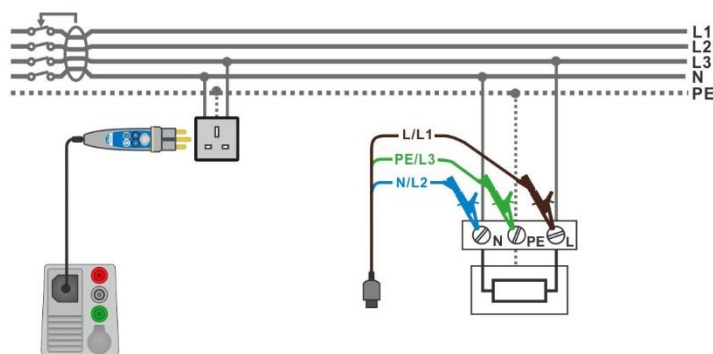

Figure 7.41: Connecting the Plug commander and the 3-wire test lead
- › Connect L, N and PE of 3-wire test lead or Plug commander to the object under test, see **Figure 7.41**.
- › Connect 3-wire test lead or Plug commander to the object under test, see **Figure 7.41**.
› Connect 3-wire test lead or Plug commander to the object under test, see Figure 7.41